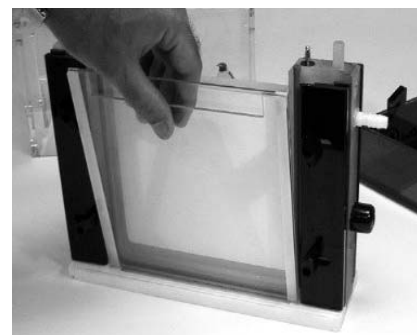

Figure 4-2. Fit on Corners
2. Place the assembled gel cassette with the notched or offset glass plate facing the inside of the upper buffer chamber on the white corners, located at the base of the upper buffer chamber (Figure 4-2). The gel cassette must be placed squarely on these corners in order to provide a good seal with the gasket and avoid leakage of buffer from the upper buffer chamber to the lower buffer chamber.